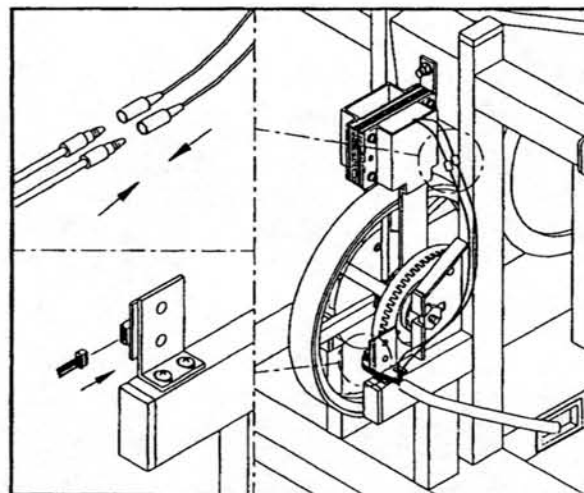

Fig.4-6
3. Connect the terminals of the ELECTROMAGNET and the plug of OPTICAL SWITCH (see fig 4-6).